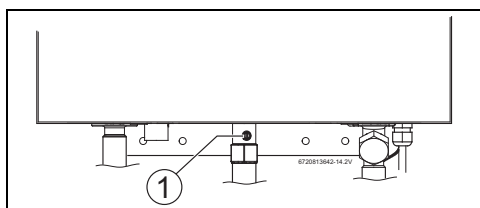

Fig. 22 Gas pressure test port
- ▶ Locate the inlet gas pressure test port (see Fig. 22).
- ▶ Loosen the screw inside test port fitting (do not remove) and connect the manometer tube to the test port (see fig. 22).